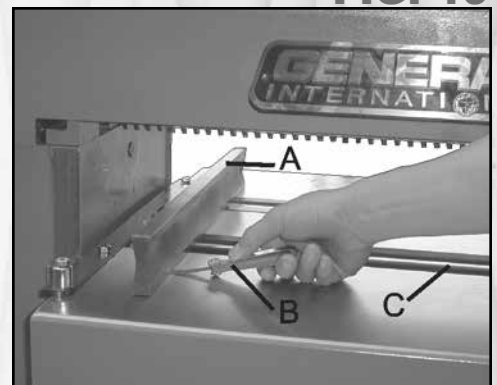

FIG. 19
3. With a feeler gauge (B) Fig.19, measure the gap between the table surface and the straight edge (A) near the infeed roll (C).